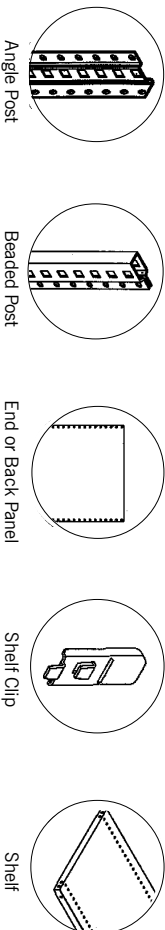

Fig. 1
- 2 **End upright assembly** - requires one Angle post at the back and one Angle or Beaded post at the front (Fig. 3). Bolt the end panels inside the two posts as shown in Fig. 1. Nuts and bolts should be located approximately 18" apart. Panels are typically provided in 2 or more pieces and overlap a minimum of 1".
- 4 Clip the top shelf to the upright assemblies through the top hole of the post (Fig. 1). Clip the bottom shelf to the upright using the third hole from the bottom of the post, or other location where bottom shelf will be required. (3" max. from floor)*. If a closed base is to be installed, connect to underside of shelf with two No. 10 x 3/8" sheet metal screws. If the shelf with the closed base is to be fastened to the unit with nuts and bolts, then the shelf unit should be positioned on its back for installation. Use two end upright assemblies if installing only one unit, or add intermediate upright assemblies if installing two or more units to form a row. For 24-gauge shelves and non-seismic applications, clips may be used instead of bolts on the top and bottom shelves.